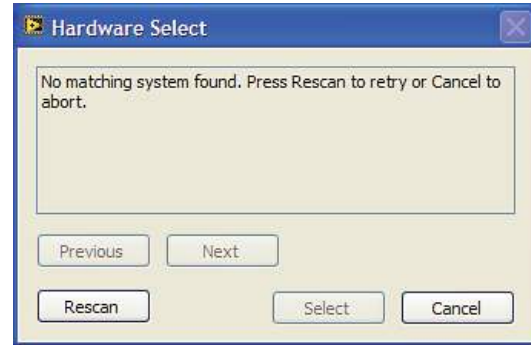

Figure 14. Connectivity Error Alert
2. If the AD7366/AD7367 evaluation system is not connected to the USB port via the EVAL-SDP-CB1Z when the software is launched, a connectivity error displays (see Figure 14). Connect the evaluation board to the USB port of the PC, wait a few seconds, click **Rescan**, and follow the instructions.